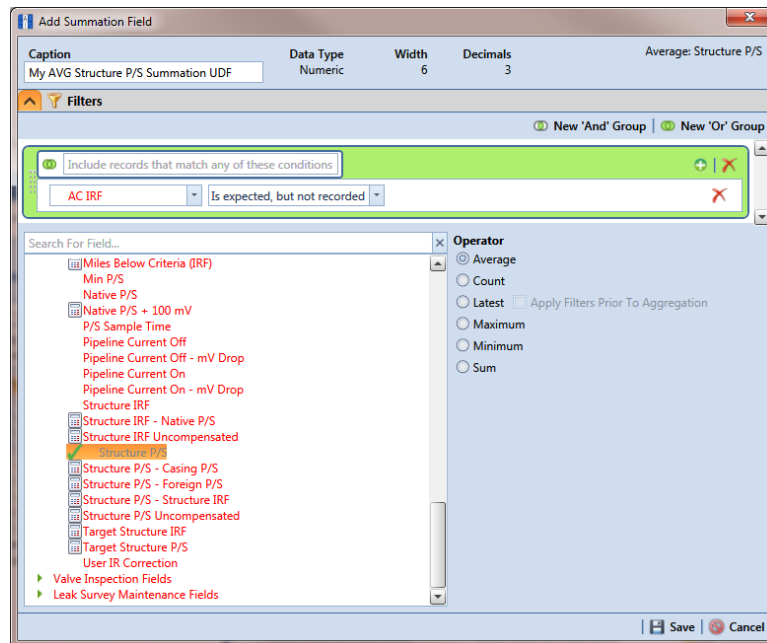

Figure 3-61. New 'Or' Filter
- b Click  **New 'Or' Group** to open the filter properties group box (Figure 3-61).